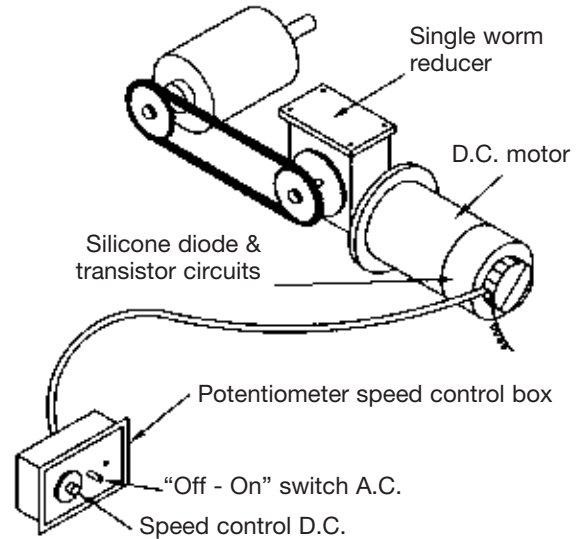

Figure 1
**Electronically Adjustable Variable Speed Drivers** are furnished to allow time adjustment for variance in load delivery. These belt speeds are easily reduced to almost "0" feet per minute, by turning a knob or dial. (See Fig. 1)